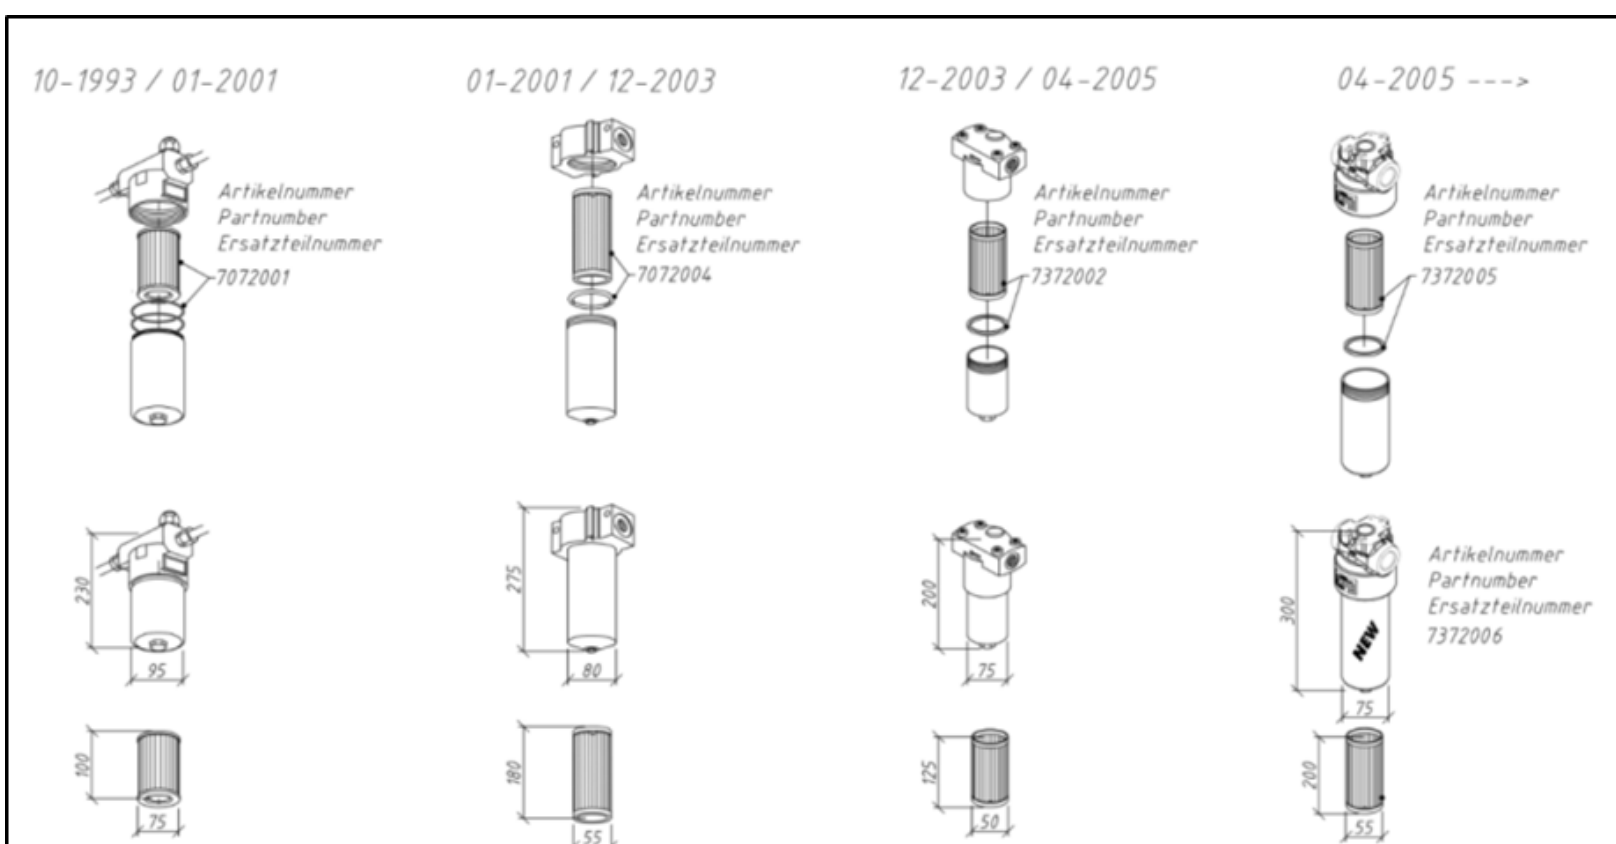

Figure 3: Filter diagram
- Replace pressure filter with the correct Cargo Floor replacement filter annually, see Figure 3.